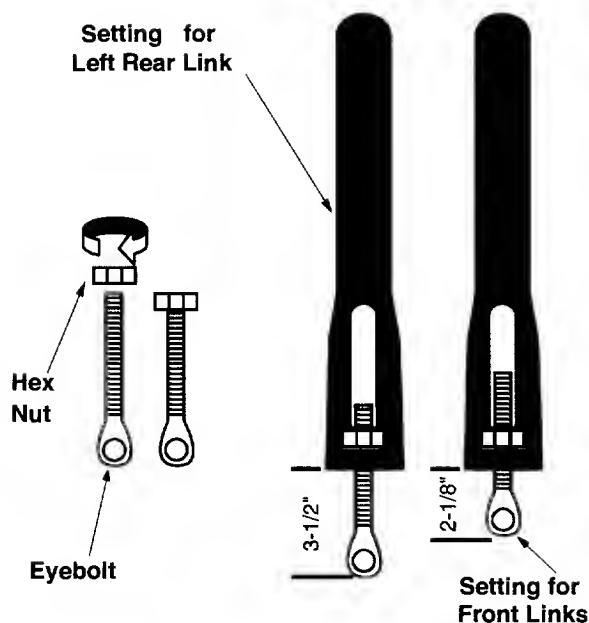

Figure 7
1. Start 1/2" hex nuts on eyebolts until nuts are flushed with ends of eyebolts. See Figure 7.
2. Insert eyebolts and hex nuts into the adjustable lift links located under the tractor. See Figure 7.
3. Thread eyebolts into the lift links and hex nuts. The left rear link should be adjusted so the eyebolt hangs about 3-1/2 inches below the lift link. The two front links should be adjusted so the eyebolts hang about 2-1/8 inches below the lift links. See Figure 7.